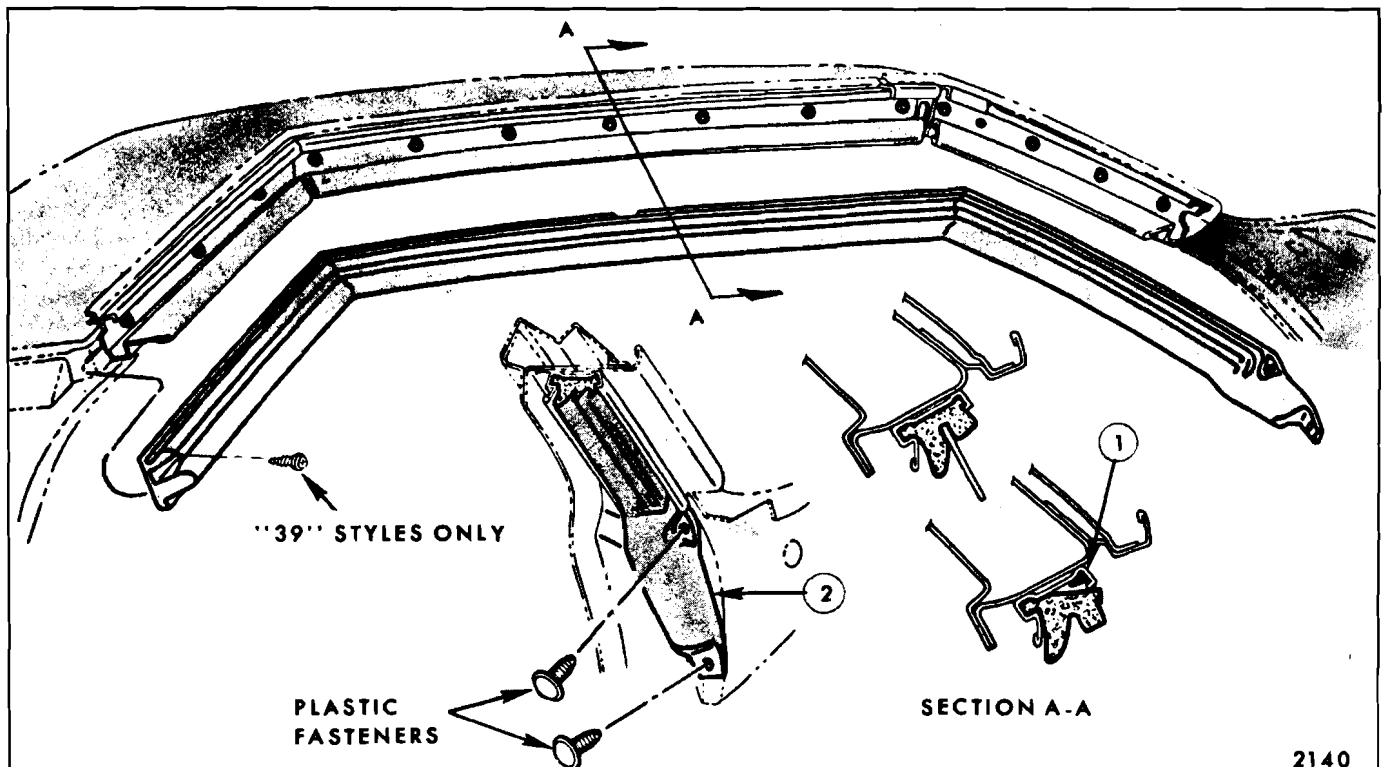

Fig. 6-8—Side Roof Rail Weatherstrip
1. Remove plastic fasteners at front of side roof rail weatherstrip (Fig. 6-8 is typical of all styles at front hinge pillar).
1. Remove plastic fasteners at front of weatherstrip similar to those shown in Figure 6-8.
1. At front of weatherstrip, disengage plastic fasteners from front body hinge pillar similar to those shown in Figure 6-8.
5. Apply a bead of black weatherstrip adhesive to outboard flange of weatherstrip retainer ("1", Figs. 6-8 and 6-10). Extend adhesive down front body hinge pillar to seal lower front end of weatherstrip that is retained with plastic fasteners.
NOTE: For Steps 5 & 6, Figures 6-8 and 6-10 are to be considered as typical for all hardtop styles.
install plastic fasteners. Then, using a flat-bladed tool, begin engaging weatherstrip with retainer as shown in Section "A-A", Figs. 6-8 and 6-10. Engage inboard lip of weatherstrip first, then, outboard lip.